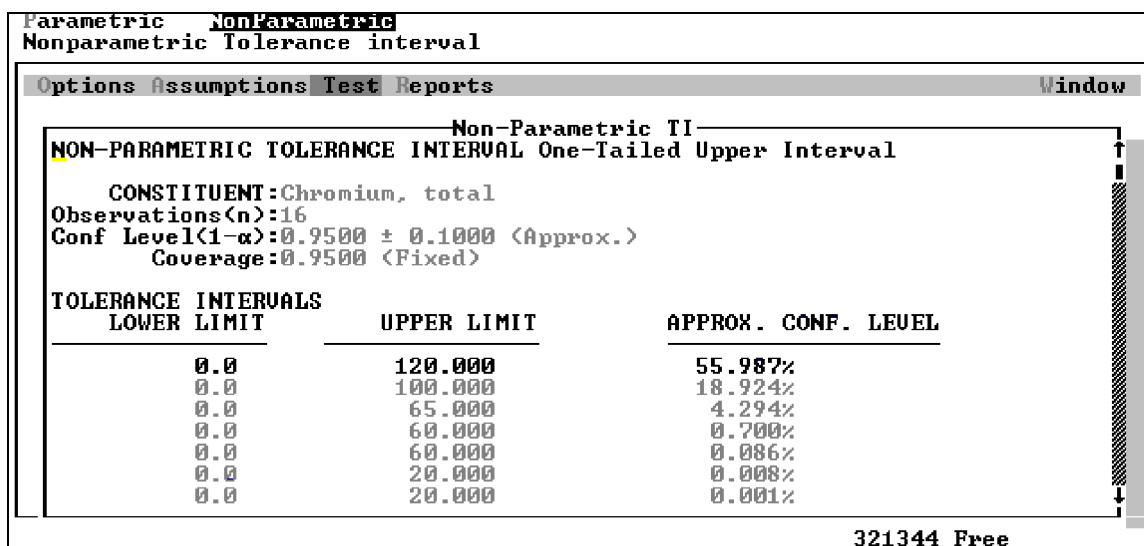

Figure 5-64. The Non-Parametric TI window.
7. Select the Define Background Data... option of the Test menu (Table 5-10) to select the data that the Tolerance Interval Limits will be computed on. Follow the instructions in Section 5.7.3 to select the background data. Upon selection of background data the Tolerance Interval is computed and displayed in the Non-Parametric TI window (Figure 5-64).